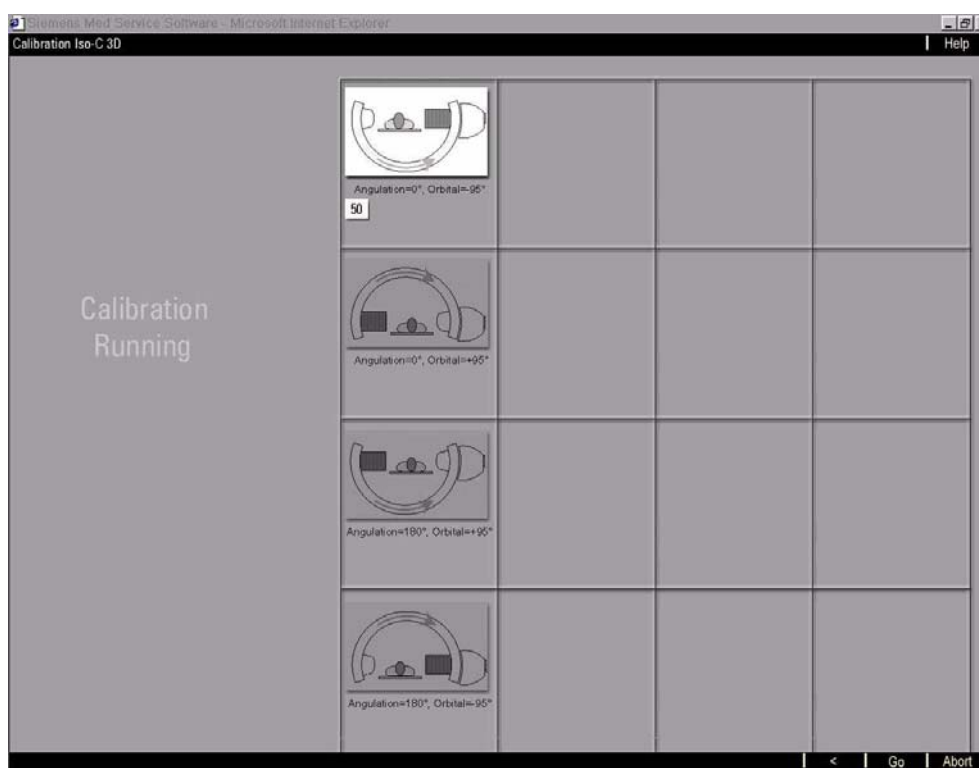

Fig. 7
- Press the left foot switch, this releases the measuring run. Keep the foot switch pressed down (Fig. 7).